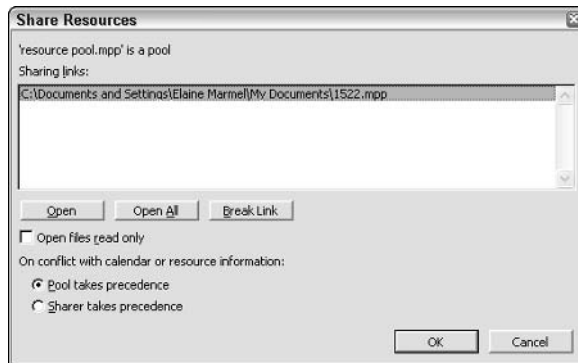

Figure 15-26: The Share Resources dialog box.
2. Choose Tools⇨Resource Sharing⇨Share Resources. Project displays the Share Resources dialog box, as shown in Figure 15-26.